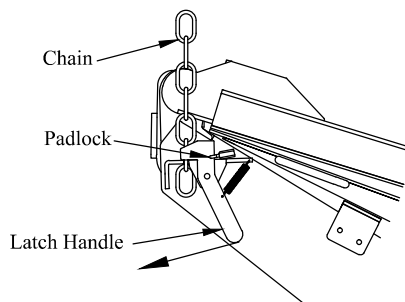

Figure 24: Step 5.
5. Unlock and remove the latch padlock (Figure 24).
6. Pull the latch handle away from the truck to disengage the latch. With the other hand, disengage the chain from the latch (Figure 24).